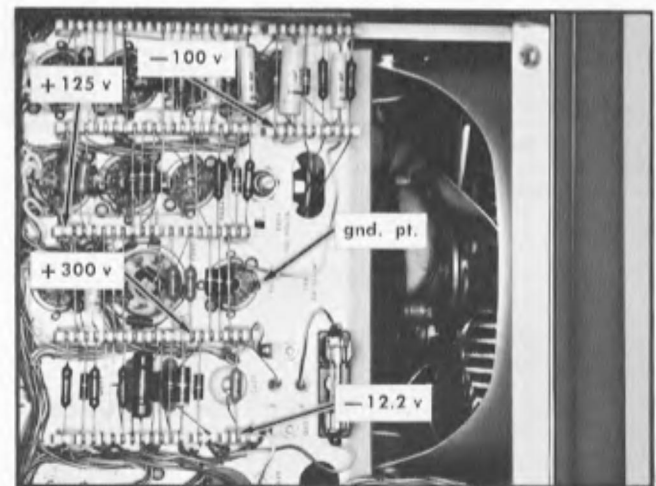

Fig. 5-1. Bottom of oscilloscope showing Power Supply test points.
2. Check the voltage accuracy of each supply output with the 20,000  $\Omega$ /volt dc voltmeter according to Table 5-3. The test points are shown in Fig. 5-1.
Ground-loops can cause an erroneous ripple measurement. One way to avoid this is to temporarily disconnect the chassis ground wire in the power cord by using an ungrounded 3 to 2 wire line plug adapter. Then use a ground lead from the signal probe body, grounded at pin 1 of V639 (shown in Fig. 5-1). The probe will then provide the only ground connection between the two instruments.